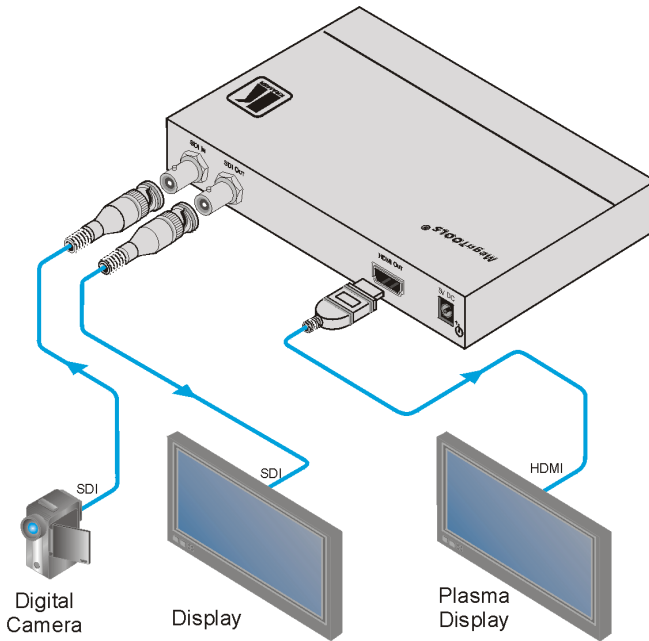

Figure 3: Connecting the VP-472 SDI to HDMI Scaler
**To connect the VP-472, as illustrated in the example in Figure 3:**
4. Connect the 5V DC power adapter to the power socket and to the mains electricity (not shown in Figure 3).